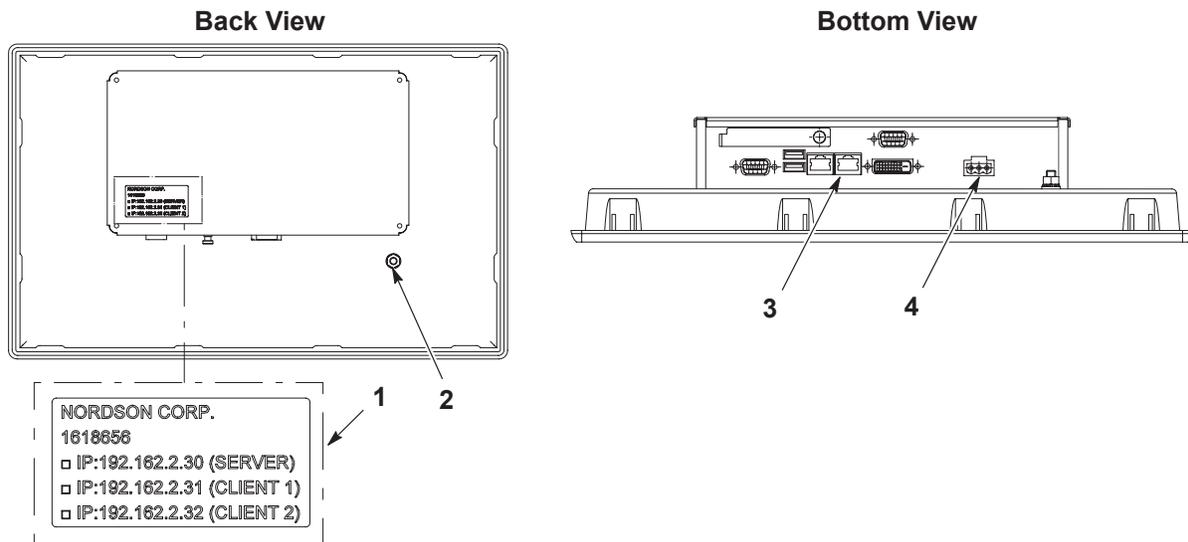

Figure 6-3 Touchscreen IP Label and Connections
2. See Figure 6-3. Note which IP address is checked on the IPS label (1) on back of the current touchscreen for later use.
3. Disconnect the ground connection (2).
4. Disconnect Ethernet (3) and power harness connection (4).
5. Support touchscreen (5) from front of door or remote display case while removing the allen screws (6) and brackets (7) securing the touchscreen.
10. Mark the matching IP address noted earlier on the IP label (shown in Figure 6-3) of the new touchscreen before closing cabinet or remote display.